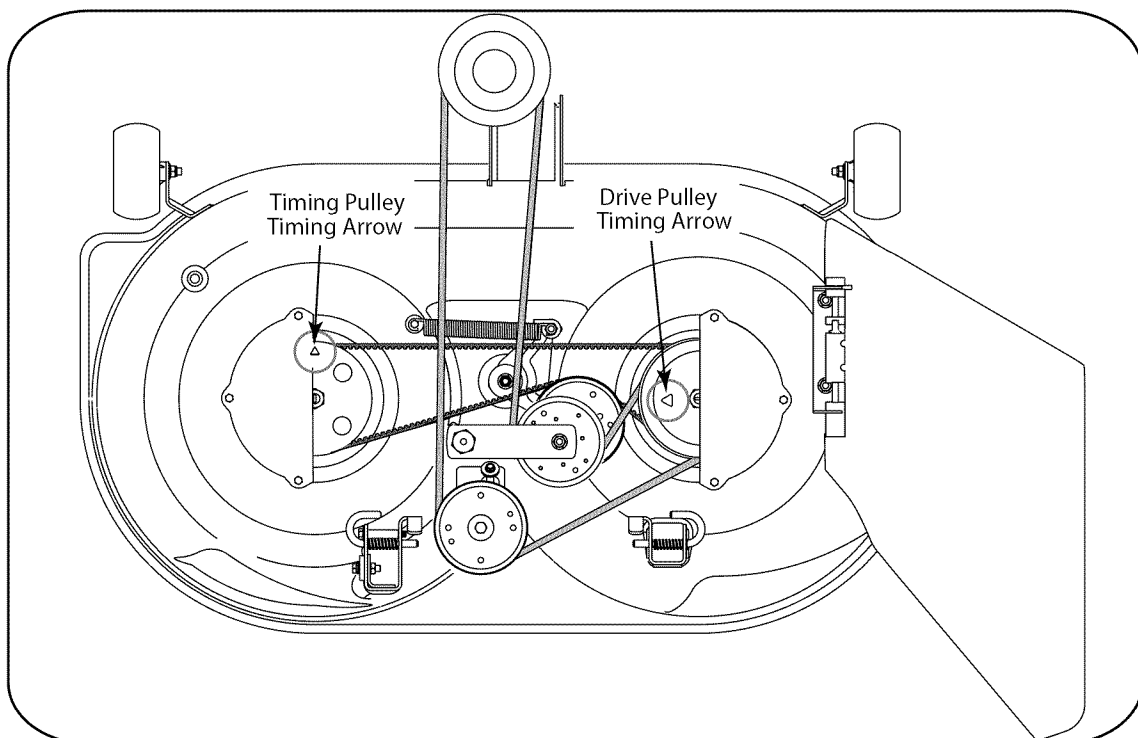
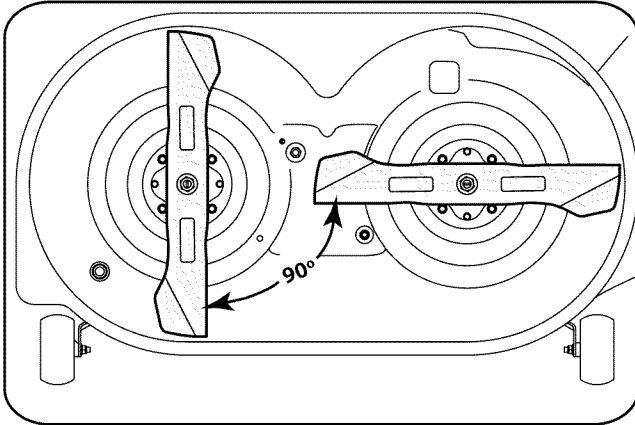

Figure 7-5
Figure 7-6
- Note the arrows on the top of the timing pulley on the LH spindle and on the drive pulley of the RH spindle assembly. These timing arrows **MUST** be positioned 90° from each other as shown in Figure 7-5.
- Rotate the RH spindle assembly to position the drive pulley timing arrow as shown in Figure 7-5. Then without moving the RH drive pulley, pull the timing belt tight against the RH timing pulley, above the timing belt idler pulley, and over to the LH timing pulley.
- Turn the LH timing pulley so that its timing arrow is 90° from the RH spindle assembly timing arrow. Refer to Figure 7-5.
- After making sure the spring is hooked onto the idler bracket and screw, pivot the timing idler bracket/idler pulley against the spring tension just far enough to allow you to lower the backside of the timing belt onto the idler pulley. See Figure 7-5.
- Re-check the timing arrows on the two pulleys. If they have moved from the 90° position when tensioning the timing belt, pivot the idler pulley to relieve tension on the belt and re-position the pulleys. **The timing arrows MUST be positioned 90° from each other as shown in Figure 7-5.**
- If the timing belt was installed correctly and the timing arrows were positioned as shown in Figure 7-5, the cutting blades should be in the position shown in Figure 7-6.